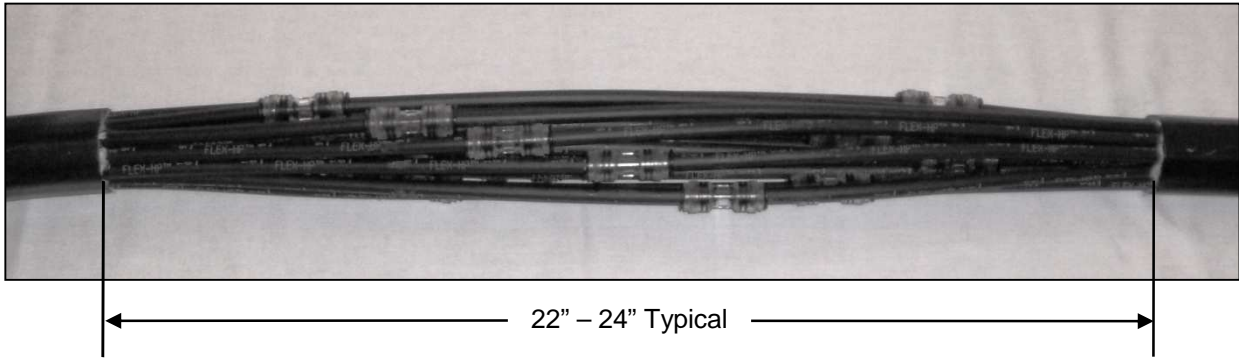

Figure 19
12.11 After all tubes are coupled, make final adjustments to tube and tube cable positions and secure in place to complete the installation. (**See Fig. 19 for an example.**)